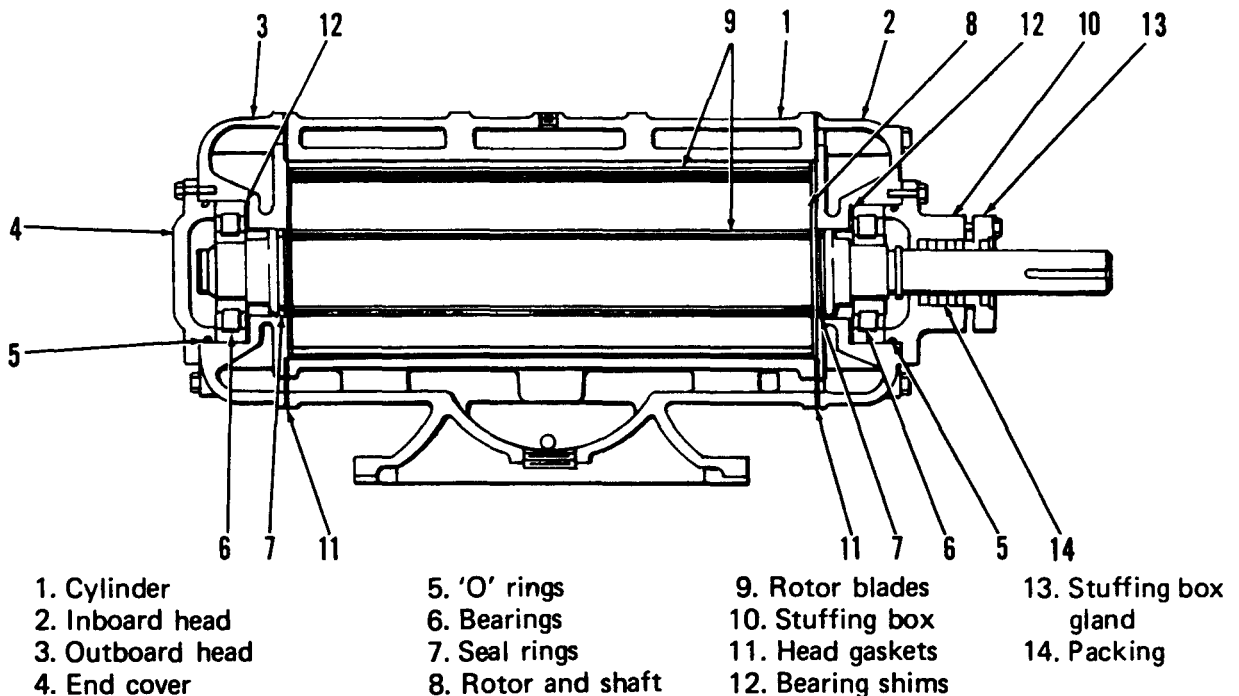

FIGURE 79
2. Wedge a block of wood between the inboard head (figure 79) and the V-drive pulley. This will prevent the rotor from sliding laterally when the outboard head is removed. If the rotor and shaft would slide laterally the inboard head seal ring would advance with the rotor and shaft, necessitating the removal of the inboard head as well.